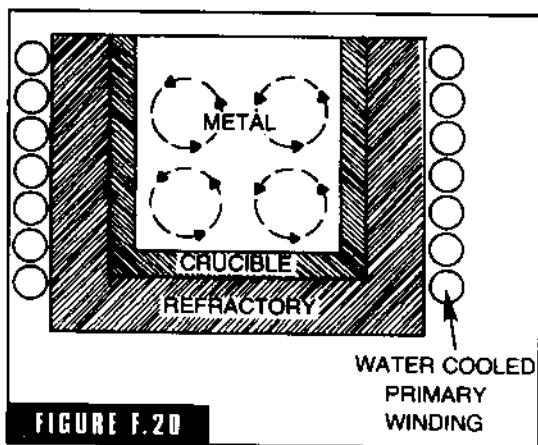

FIGURE F.20
**furnace, induction** The induction furnace operates by the process of induction (Fig. F-20). The metal charge is made the secondary of a high frequency transformer, 1000 to 3000 cycles. Eddy currents are induced in the metal charge in much the same way a transformer introduces them in the secondary winding. The winding in this case (secondary) is the metal charge, which acts like a short circuited secondary.